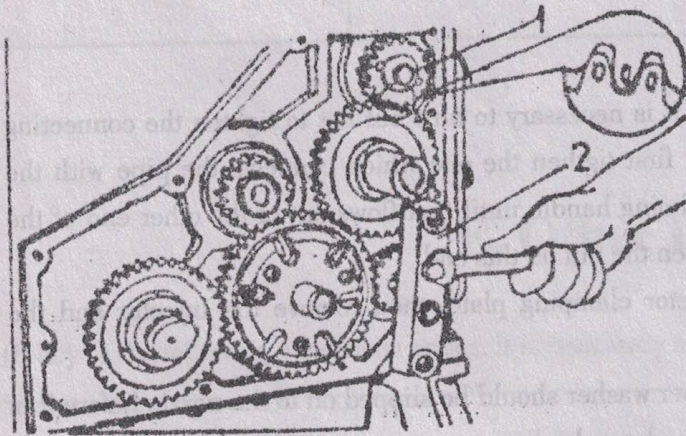

Fig. 18 Arrangement of gear train (tooth-mesh-marks must be lined up) and dismantling of balancing shaft gear by means of a puller
3. Dismantle the speed-governor gear, sliding ball-race and steel balls. While assembling it is absolutely necessary that the tooth-mesh-marks on all the gears must be respectively lined up with one another as they were before dismantling (Fig. 18).